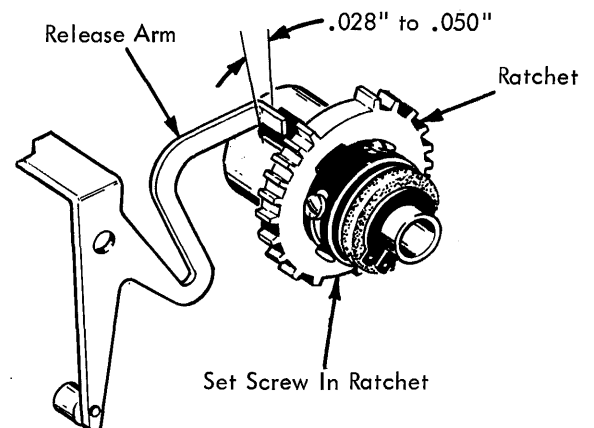

FIGURE 67.1 Shift Clutch Ratchet Adjustment
- 2.1 Shift Clutch Ratchet Adjustment (Late) (Fig. 67.1) - Adjust the shift clutch ratchet to satisfy the following condition. With the machine turned off and the shift cam detented, the shift clutch ratchet will rotate .028" to .050" when the shift release arm releases the ratchet. The rotation can be observed relative to the shift release arm and the shift cam stop. Be sure to loosen the set screw in the ratchet before adjusting. Note: Remove play from the shift ratchet in a clockwise direction before checking this adjustment.